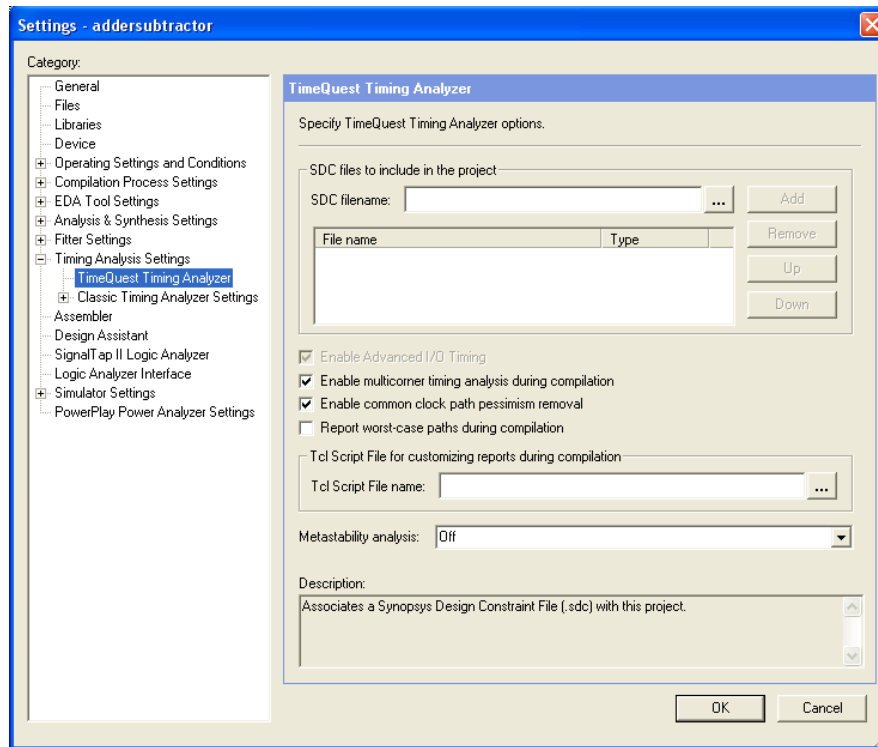

Figure 35: Adding SDC file to project.
- From the main Quartus® II window, click **Assignments > Timing Analysis Settings** and select "Use TimeQuest Timing Analyzer during compilation". Expand the Timing Analysis Settings category and then click on TimeQuest Timing Analyzer to reach the window in Figure 35. Here, we can add the SDC file we have created to the project. Click on the ... button beside the SDC filename field and select *addersubtractor.out.sdc*, which is the SDC file we created using TimeQuest Timing Analyzer. Click on **Open** to return to the window in Figure 35 and click **Add** to associate the SDC file with this project. Click **OK** to return to the main Quartus® II window.